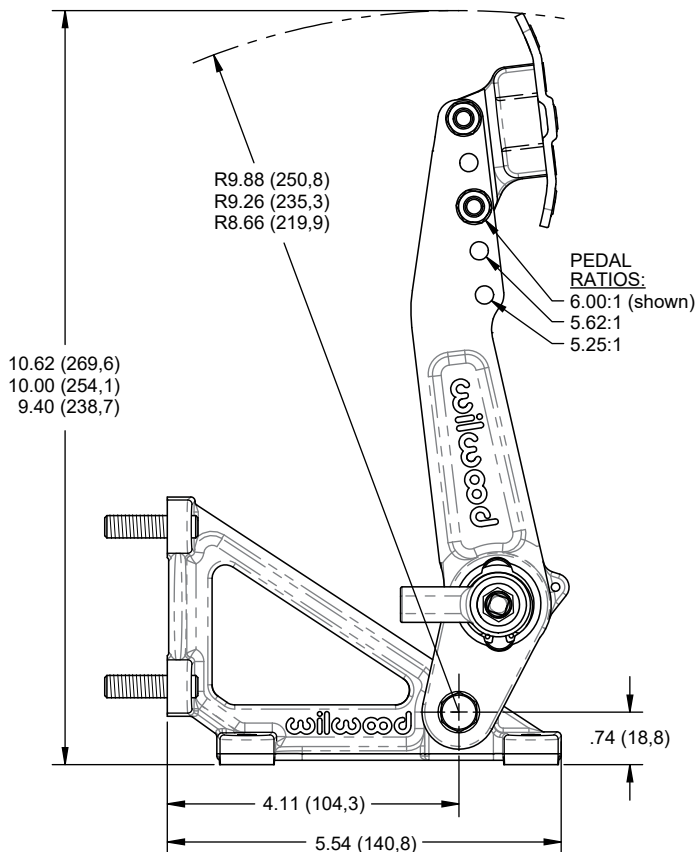

Figure 1a. Forward Floor Mount Single Pedal Assembly, Physical Dimensions, 5.25:1 to 6.00:1 Ratio (P/N 340-16377)
•Wilwood's forward floor mount single pedal assembly must be mounted using the four 5/16-18 threaded outboard mounting holes as shown in Figures 1a & 1b. Attach the pedal assembly to two sturdy beams or plates with four 5/16" bolts. Pedal assembly must be rigidly attached to frame and not deflect under heavy pedal forces. **NOTE:** Pedal must be free from obstructions over the entire range of motion. Allow enough space so Tru-Bar balance bar adjustments can be made and master cylinders are accessible.